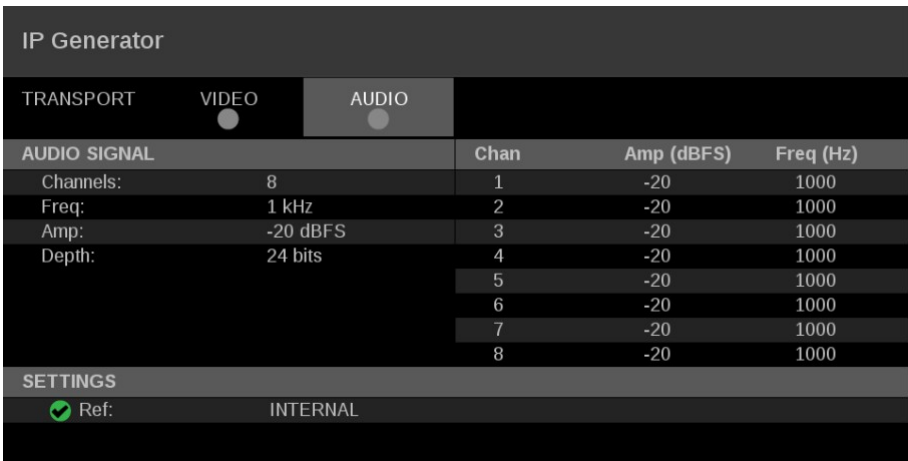

Figure 179: IP Generator application – AUDIO tab display
**AUDIO tab display.** Use this tab to view the settings of the generated audio stream. (See Figure 179.)